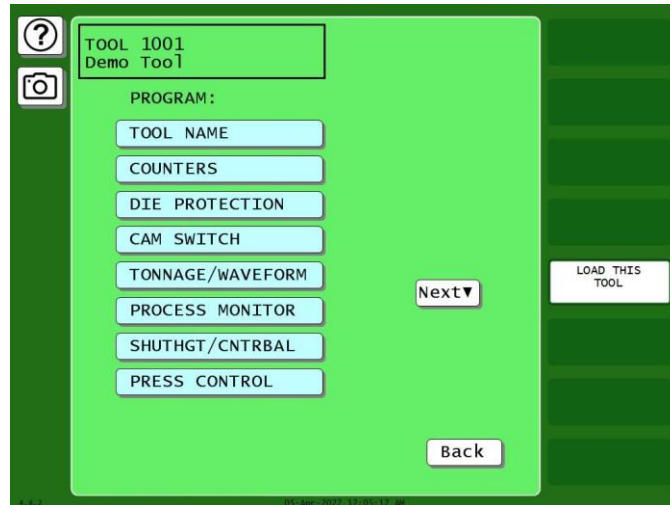

Figure 4-1. Edit Tool Program Menu
3. Press EDIT TOOL. The Tool Program Menu screen appears, Figure 4-1.